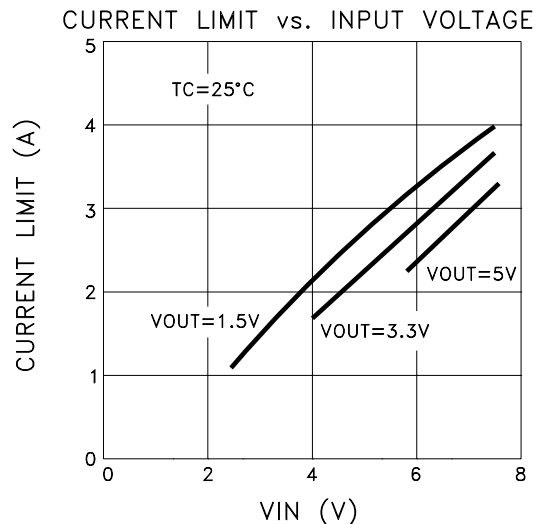

FIGURE 1
- ⑦ Output current limit is dependent upon the values of VIN and VOUT. See Figure 1 and typical performance curves.
- ⑧ Minimum VIN at -55°C and IOUT=1.0A is 4.0V due to current limit circuitry.
- ⑨ Continuous operation at or above absolute maximum ratings may adversely effect the device performance and/or life cycle.
- ⑩ Pre and post irradiation limits at 25°C, up to 100Krad TID, are identical unless otherwise specified.
- ⑪ Reference DLA SMD 5962R05220 for electrical specifications for devices purchased as such.
The MSK5900RH current limit function is directly affected by the input and output voltages. Figure 1 illustrates the relationship between VIN and ICL for three output voltages.